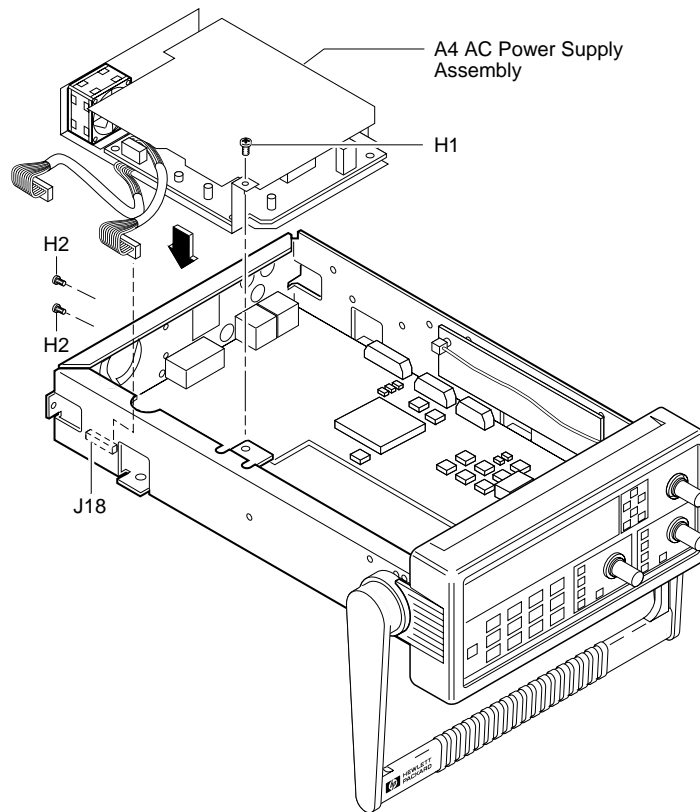

Figure 4-1B. DC Power Input Assembly Retrofitting
- 7 To install the new A4 AC Power Supply Assembly (53132-60207), connect the ac power supply's shorter cable to connector J18 on A1 Motherboard Assembly as shown in Figure 4-1B.**
- 8 Insert and tighten the two TORX 10 screws (H2) to attach A4 Power Supply Assembly to the rear of the chassis as shown in Figure 4-1B.**
- 9 Insert and tighten the TORX 15 screw (H1) into the upper-middle of the chassis as shown in Figure 4-1B.**